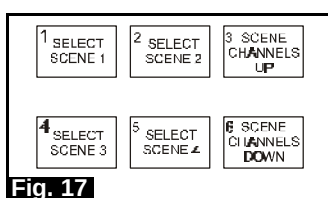

Fig. 17
- 8. WP6M** A WP6 or similar device may be used to select four scenes and also allow up/down adjustment when the Paradime input is set to WP6M in menu 51. The functions of the buttons are shown in Fig. 17 below. Pressing buttons 1, 2, 4 or 5 recalls the scenes allocated to memories 1, 2, 3 and four in menu 34. Buttons 3 and 6 gradually increase/decrease the level of the channels until they reach 100% or 0. The original scene may be re-instated by pressing the appropriate scene button. Only those channels with levels greater than zero respond to the 'scene channels up' and 'scene channels down' buttons.